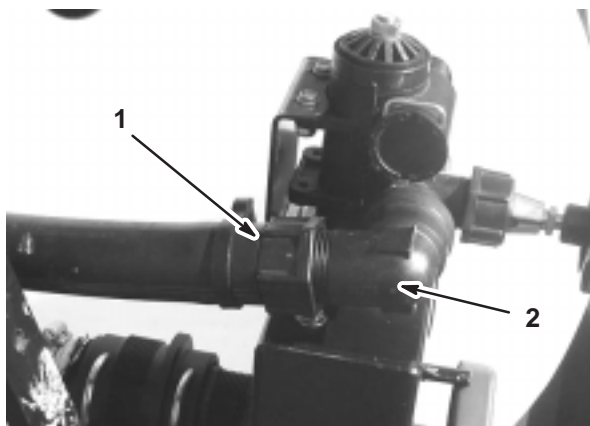

Figure 11
6. Insert the O-ring into the female threaded end of the long hose assembly and install it onto the fitting on the side of the control valve (Fig. 11).